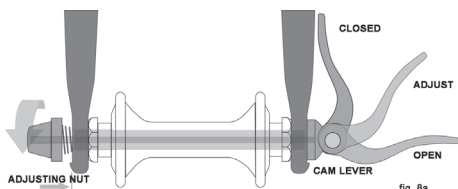
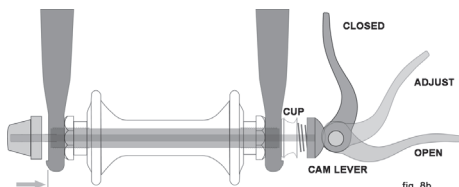

fig. 8a
fig. 8b
There are currently two types of over-center cam wheel retention mechanisms: the traditional over-center cam (fig. 8a) and the cam-and-cup system (fig. 8b). Both use an over-center cam action to clamp the bike's wheel in place. Your bicycle may have a cam-and-cup front wheel retention system and a traditional rear wheel cam action system.
a. Adjusting the traditional cam action mechanism (fig. 8a)
b. Adjusting the cam-and-cup mechanism (fig. 8b)
(2) If your bike has cam action front wheel retention, move the cam lever from the locked or CLOSED position to the OPEN position (figs. 8a & b). If your bike has through bolt or bolt-on front wheel retention, loosen the fastener(s) a few turns counter-clockwise using an appropriate wrench, lock key or the integral lever.
(3) If your front fork has a clip-on type secondary retention device, disengage it. If your front fork has an integral secondary retention device, and a traditional cam action system (fig. 8a) loosen the tension adjusting nut enough to allow removing the wheel from the dropouts. If your front wheel uses a cam-and-cup system, (fig. 8b) squeeze the cup and cam lever together while removing the wheel. No rotation of any part is necessary with the cam-and-cup system.
(1) If your bike has cam action front wheel retention, move the cam lever so that it curves away from the wheel (fig. 8b). This is the OPEN position. If your bike has through bolt or bolt-on front wheel retention, go to the next step. Make sure that the brake disc is positioned on the correct side so it can fit in the caliper.
(2) With the steering fork facing forward, insert the wheel between the fork blades so that the axle seats firmly at the top of the fork dropouts. The cam lever, if there is one, should be on rider's left side of the bicycle (fig. 8a & b). If your bike has a clip-on type secondary retention device, engage it.
(3) If you have a traditional cam action mechanism: holding the cam lever in the ADJUST position with your right hand, tighten the tension adjusting nut with your left hand until it is finger tight against the fork dropout (fig. 8a). If you have a cam-and-cup system: the nut and cup (fig. 8b) will have snapped into the recessed area of the fork dropouts and no adjustment should be required.
(4) While pushing the wheel firmly to the top of the slots in the fork dropouts, and at the same time centering the wheel rim in the fork:
(a) With a cam action system, move the cam lever upwards and swing it into the CLOSED position (fig. 8a & b). The lever should now be parallel to the fork blade and curved toward the wheel. It should point backwards to avoid being opened by contact while riding. To apply enough clamping force, you should have to wrap your fingers around the fork blade for leverage, and the lever
(3) On a derailleur gear system, pull the derailleur body back with your right hand.
(4) With a cam action mechanism, move the quick-release lever to the OPEN position (fig. 8b). With a through bolt or bolt on mechanism, loosen the fastener(s) with an appropriate wrench, lock lever or integral lever; then push the wheel forward far enough to be able to remove the chain from the rear sprocket.
(5) Lift the rear wheel off the ground a few inches and
Some bikes are equipped with a cam action seat post binder. The seat post cam action binder works exactly like the traditional wheel cam action fastener (Section 4.A.2) While a cam action binder looks like a long bolt with a lever on one end and a nut on the other, the binder uses an over-center cam action to firmly clamp the seat post (see fig. 8a).